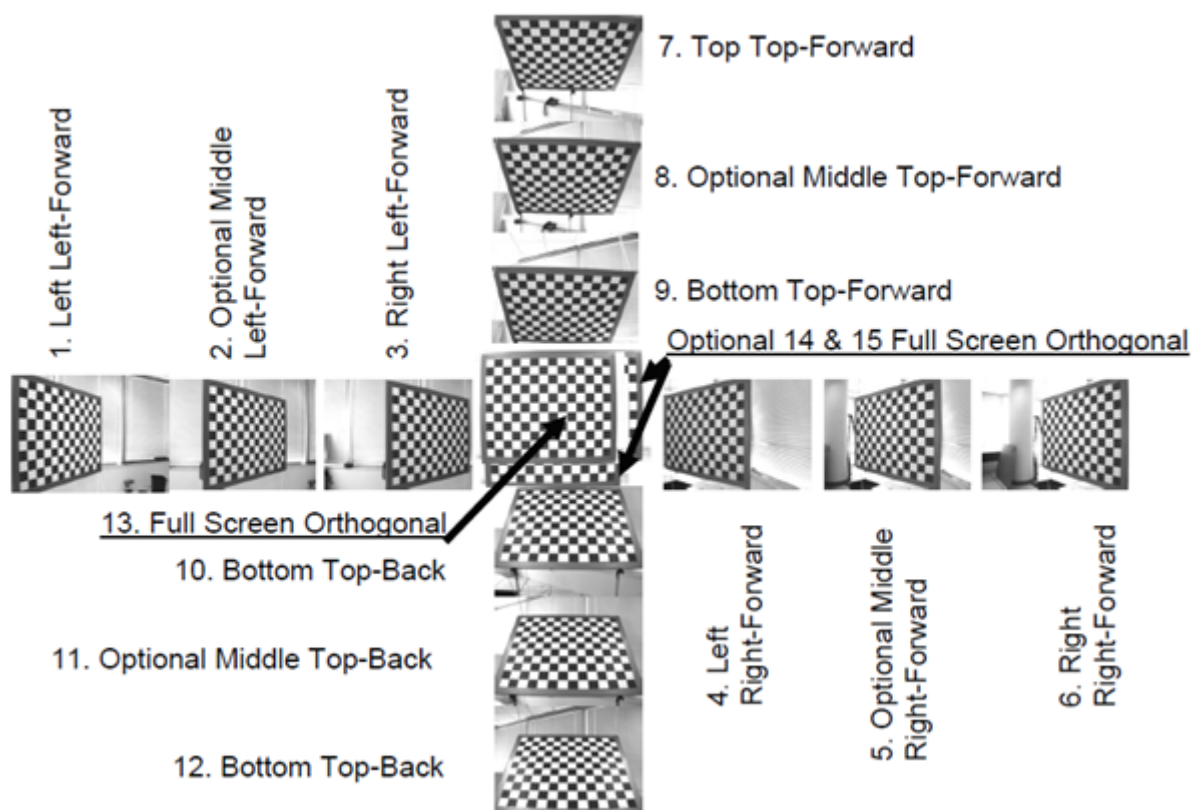

Figure 2: Checkerboard pattern poses
- Use a variety of checkerboard pattern poses, at least 10 (see Figure 2).